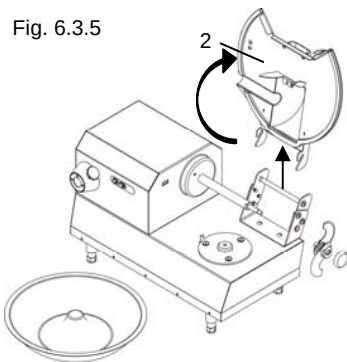

Fig. 6.3.4
- Turn the tank "5" counter-clockwise (Fig. 6.3.4) in order to release it from its seat
- The surface is now smooth and easy to clean. (Fig. 6.3.4).